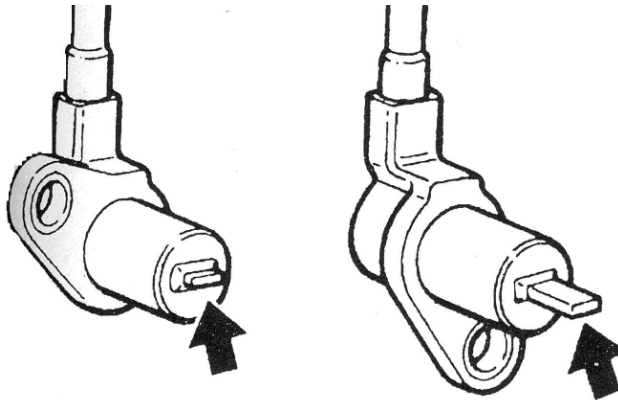

Fig.16-65
(1) Removal front/rear wheel speed sensor according to Fig 16-65.